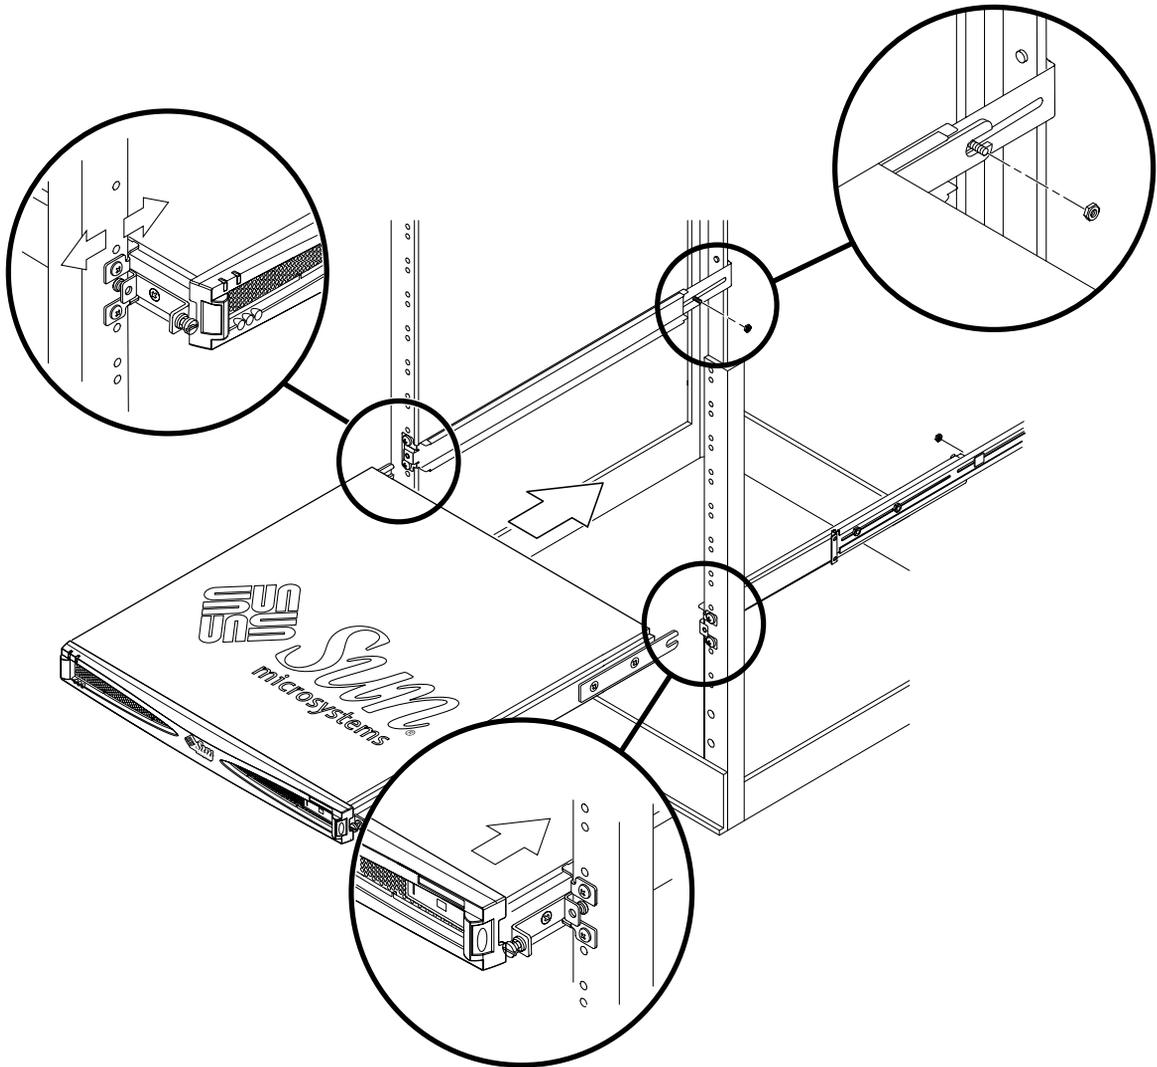

FIGURE 3-8 Sliding the Sun StorEdge S1 Array and Attaching It Into a Rack
12. **Slide the Sun StorEdge S1 array into the rack as far as it goes (FIGURE 3-8).**
- 14. Slide the stud from the stud plate as far as it can go into the open slot on the side bracket that is attached to the back of the array (FIGURE 3-8).**